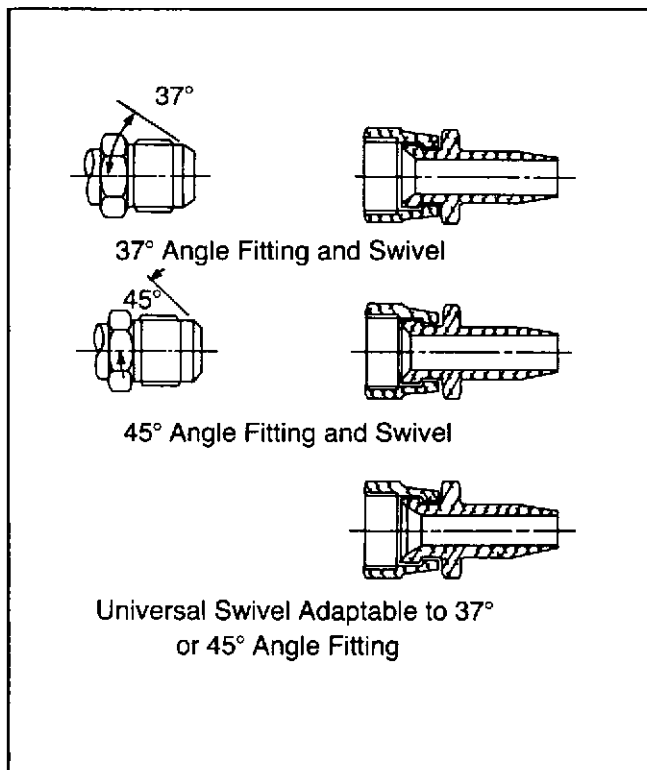

Fig. 5-1, (F60184). Wire braid hose fittings and swivel angles
**Caution:** Note Fig. 5-1, which illustrates two different angle fittings used on Cummins wire braid hose. Failure to use the proper combinations can cause air or fuel leaks.